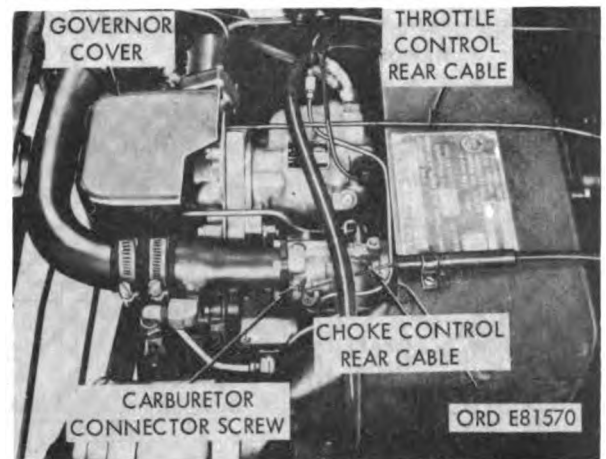

Figure 2-26. Location of governor cover, throttle and choke rear control cables.
- (1) Remove engine access lid. Loosen four screws securing governor cover, and remove cover (fig. 2-26).
- (1) Loosen carburetor connector screw and remove cable (fig. 2-26).